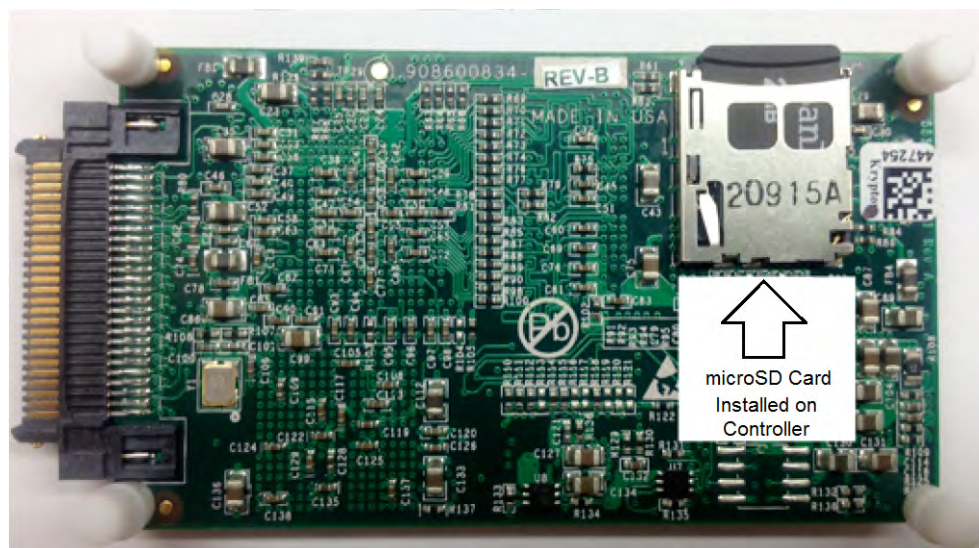
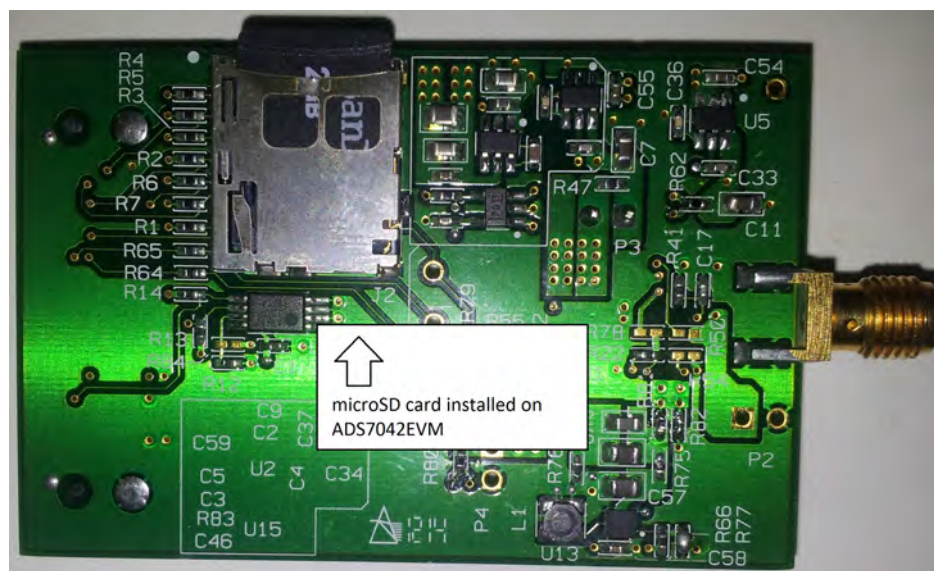

Figure 3. Bottom View of Simple Capture Card with microSD Memory Card Installed
Figure 4. Bottom View of ADS7042EVM Board with microSD Memory Card Installed
As mentioned in the previous section, the ADS7042EVM-PDK includes two microSD memory cards. One is installed on the microSD socket (P6) at the back of the Simple Capture Card as shown in Figure 3. The second microSD memory card is installed on the microSD socket (J2) at the back of the ADS7042EVM as shown in Figure 4.
- Step 2. Verify the microSD card is installed on the back of the Simple Capture Card, as shown in Figure 3.
- Step 3. Verify the microSD card is installed on the back of the EVM board, as shown in Figure 4.